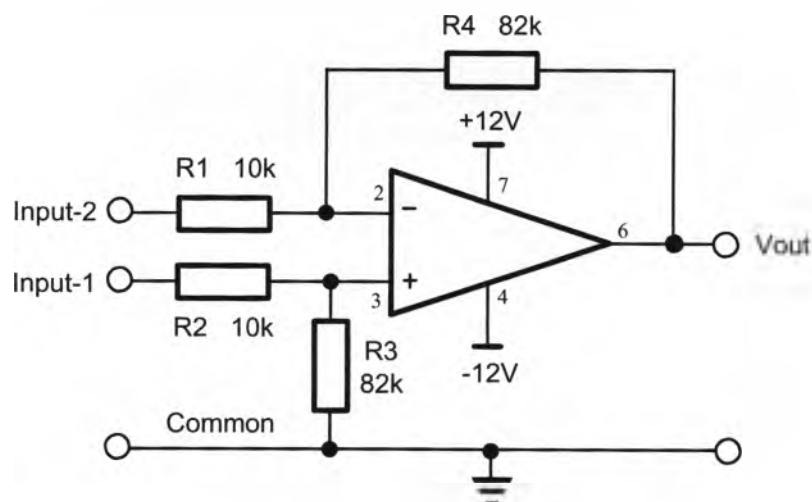

Figure 2
4. Connect the circuit of Figure 2 on the Emona Trainer.